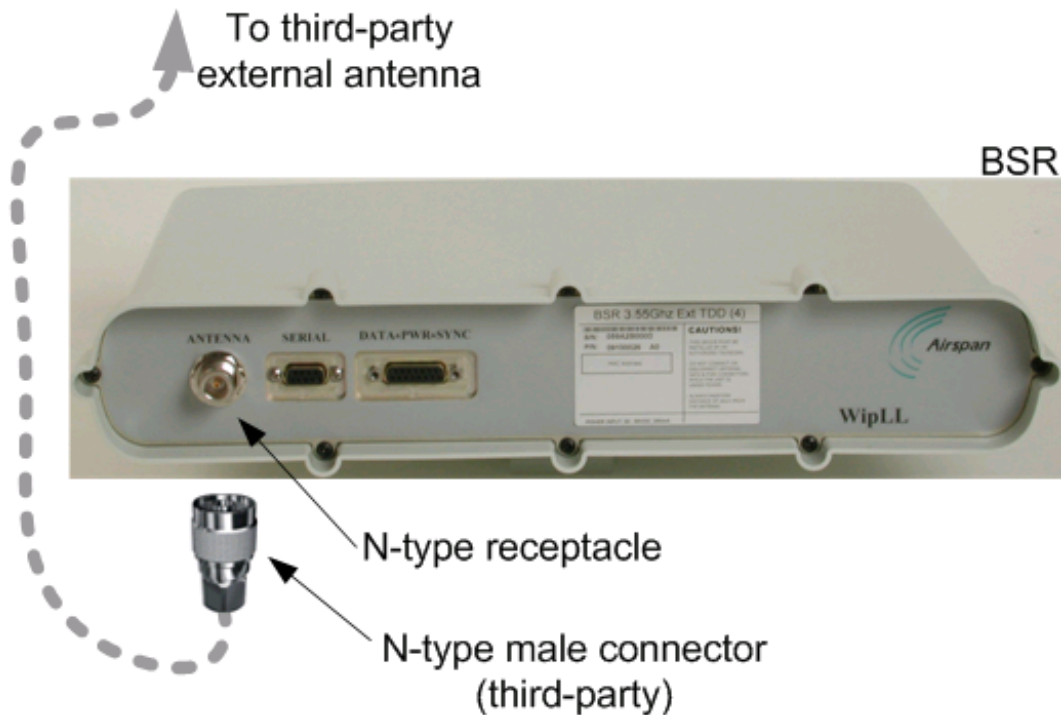

Figure 10-1: Attaching third-party external antenna
- Connect the third-party **N-type male** connector, at the end of the RF cable, to the N-type port located on the BSR's front panel, as displayed in Figure 10-1.